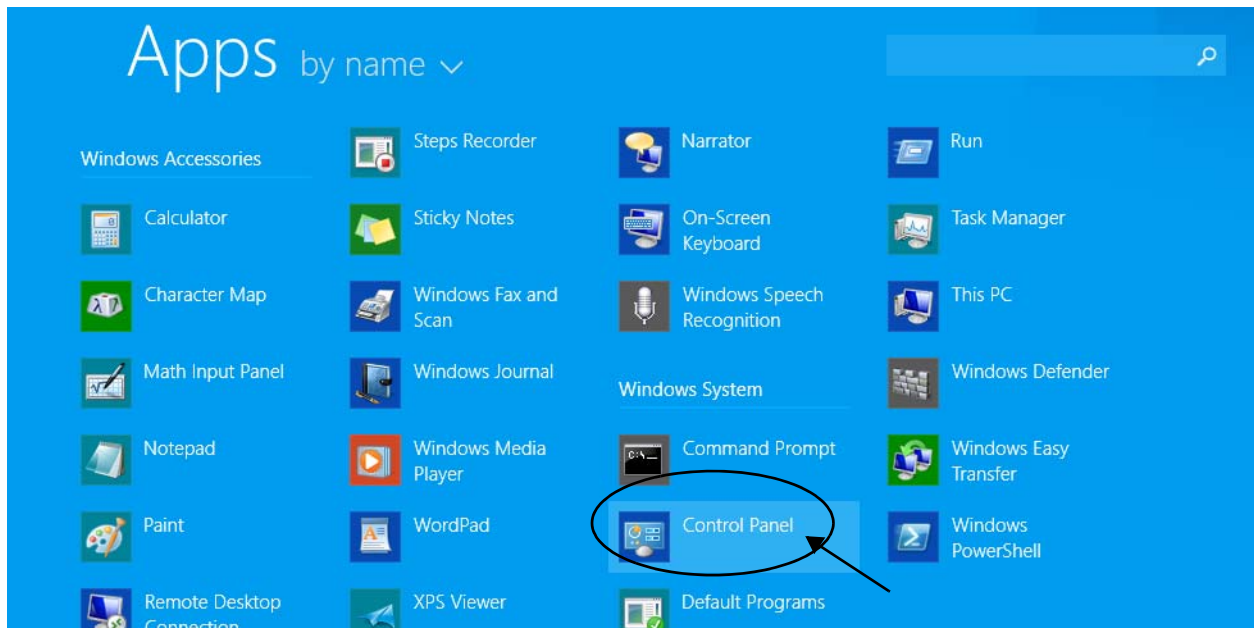

FIG. 42
1. Access the Control Panel from the Apps list (FIG. 42).